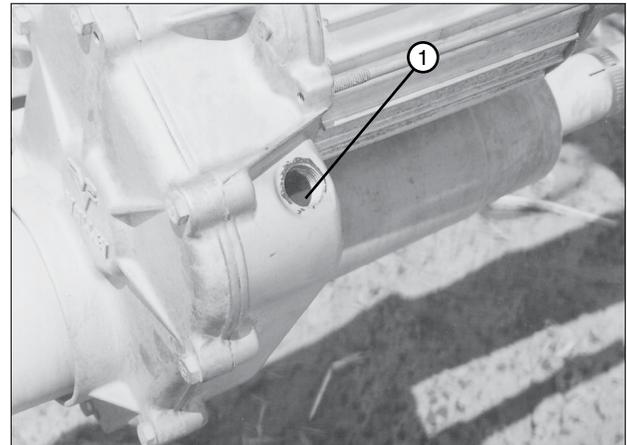

Figure 55-2 1. Bottom Of Fill Plug Hole
2. Fill the gearbox 1-7/8 in (48 mm) from the bottom of fill plug hole with Valley Gear Lube. The capacity of the gearbox is approximately 44 oz (1.3 liter). See figure 55-2.